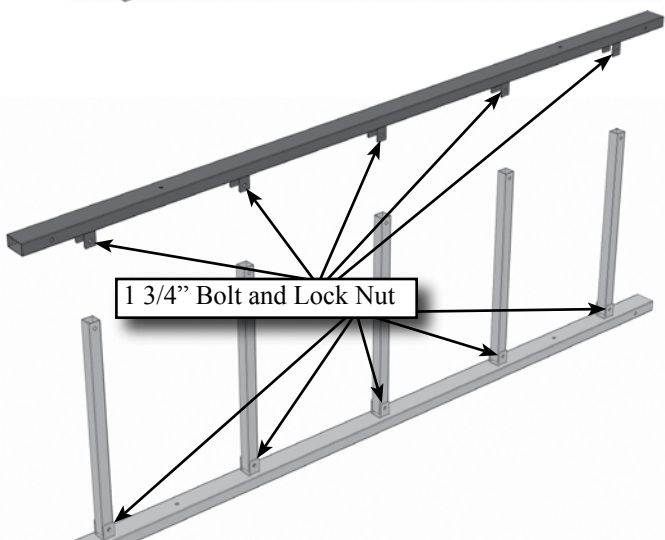

Figure 14
**Step 5.** Place the remaining lower ladder support column on the five rungs as shown in **Figure 14**. Use five 1 3/4" bolts with lock nuts to secure the rungs to the support column. Hand tighten these bolts.